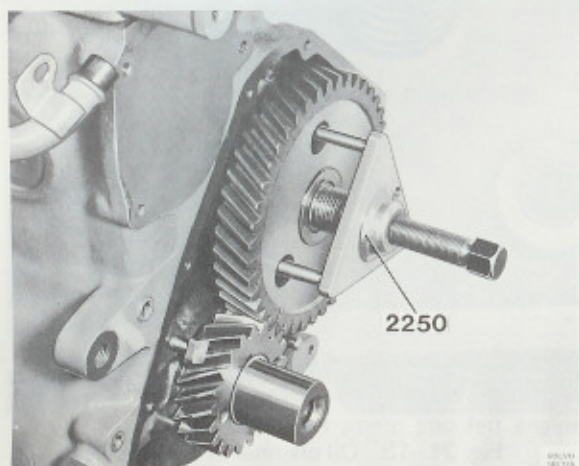

Fig. 21-9. Removing the camshaft gear
8. Remove the camshaft nut and pull off the gear with puller 2250, Fig. 21-9.